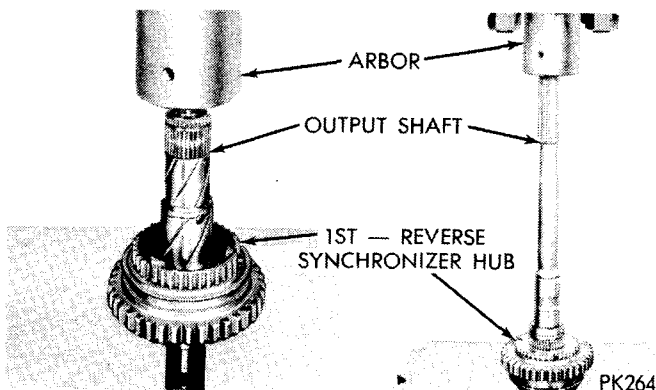

Fig. 9—Removing and Installing 1st-Reverse Synchronizer Hub
(1) Lubricate output shaft splines and machined surfaces with transmission lubricant.
(2) Slide 1st-reverse synchronizer onto output shaft with fork groove toward front. The 1st-reverse synchronizer hub is a press fit on output shaft. To eliminate possibility of damaging hub, install hub using an arbor press (Fig. 9). **Do not attempt to install hub by hammering or prying.** Secure hub to output shaft with snap ring.